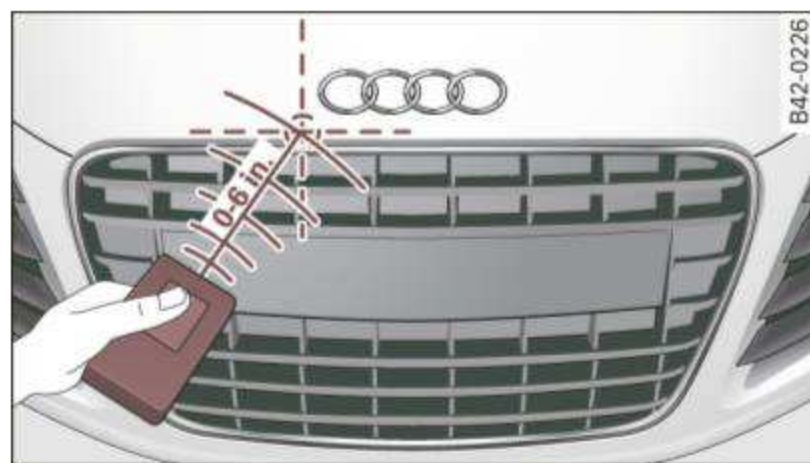

Fig. 82 Front bumper, driver side: location of transmitter unit
6. Hold the *original remote control* at a distance between 0–6 in. (0–15 cm) from the bumper below the appropriate headlight for your vehicle ⇒ fig. 82 (use the shortest distance possible).